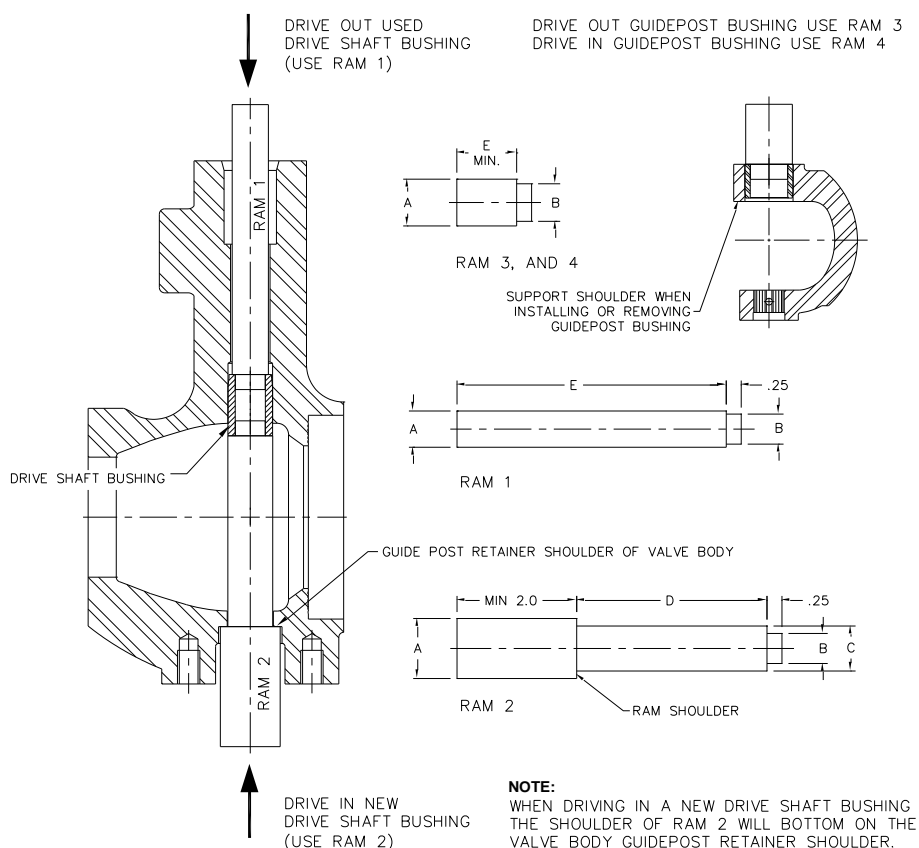

Figure 5. Ram Dimensions for replacing Bearings
To remove the bearings (Keys 8 and 11) see figure 5 for replacing the bearings. Refer to the bearing replacement procedure. When a new body (Key 7) and drive shaft bearing (Key 8) or V-Ball (Key 21) and guide post bearing (Key 11) is ordered, the bearing will be pressed in at the factory.
CVS does not recommend replacing bushings in the field. The procedure is difficult and may cause permanent damage to the V-ball. If replacement of the bushing in the field is necessary, follow the instructions that follow and the dimensions in figure 5.
2. From figure 5 select the proper size ram and insert it in the body. This will allow you to drive out the bushing with a hydraulic press.
7. Support the ball as indicated in figure 5. Push the new bushing in flush with the ball ear.